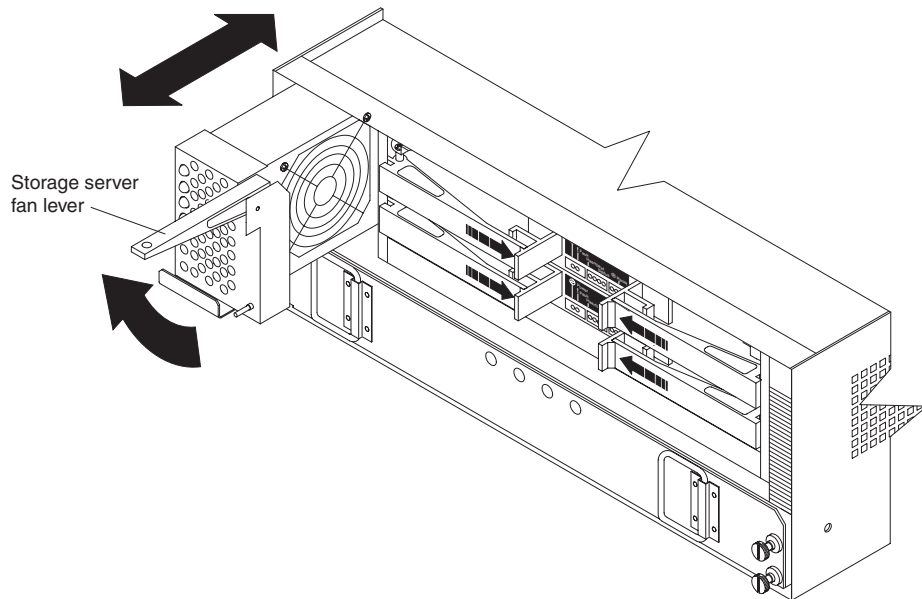
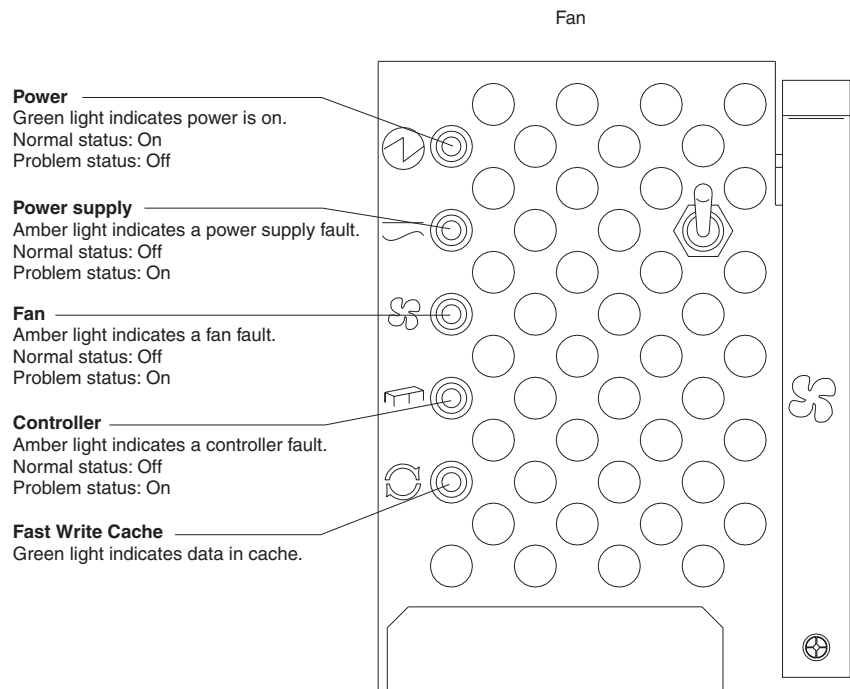

Figure 39. Removing and installing the storage server fan
Figure 40. Storage server indicator lights
The storage server fan is a single, removable unit containing two cooling fans and temperature monitoring circuitry. The storage server fan plugs directly into a slot on the front of the FAStT700 Storage Server, to the left of the controllers (see Figure 39 on page 45). Five indicator lights provide overall system status information (see Figure 40 on page 46). The dual fans in the storage server fan unit provide a redundant cooling system to both controller CRUs. If one fan fails, the other continues to operate, providing sufficient air circulation to prevent the controllers from overheating until you can replace the entire storage server fan.
2. Remove the failed storage server fan, as shown in Figure 39.
- Using Figure 40 as a guide, check the storage server indicator lights on the fan.